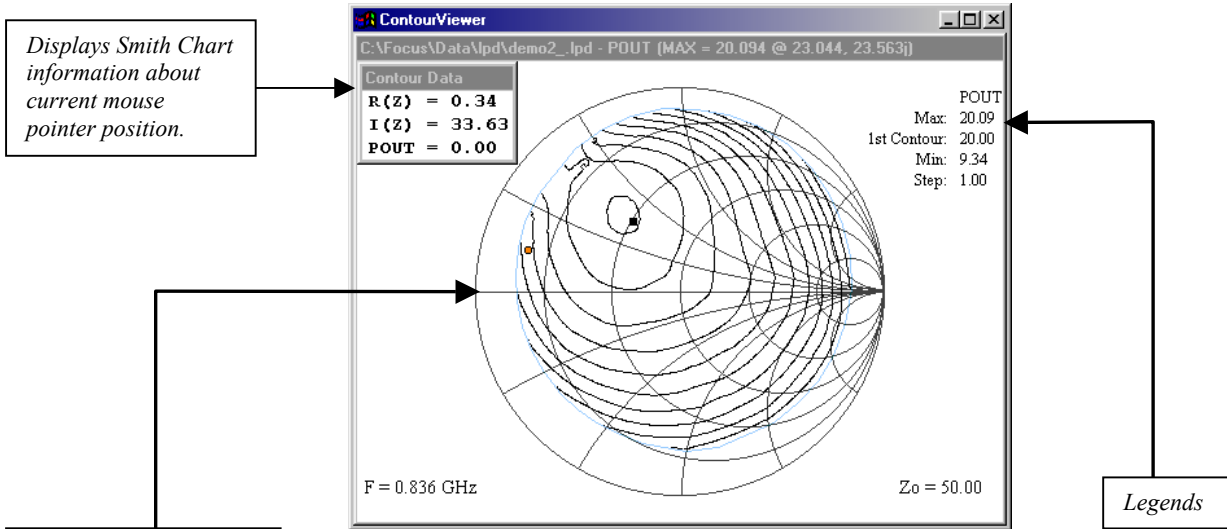
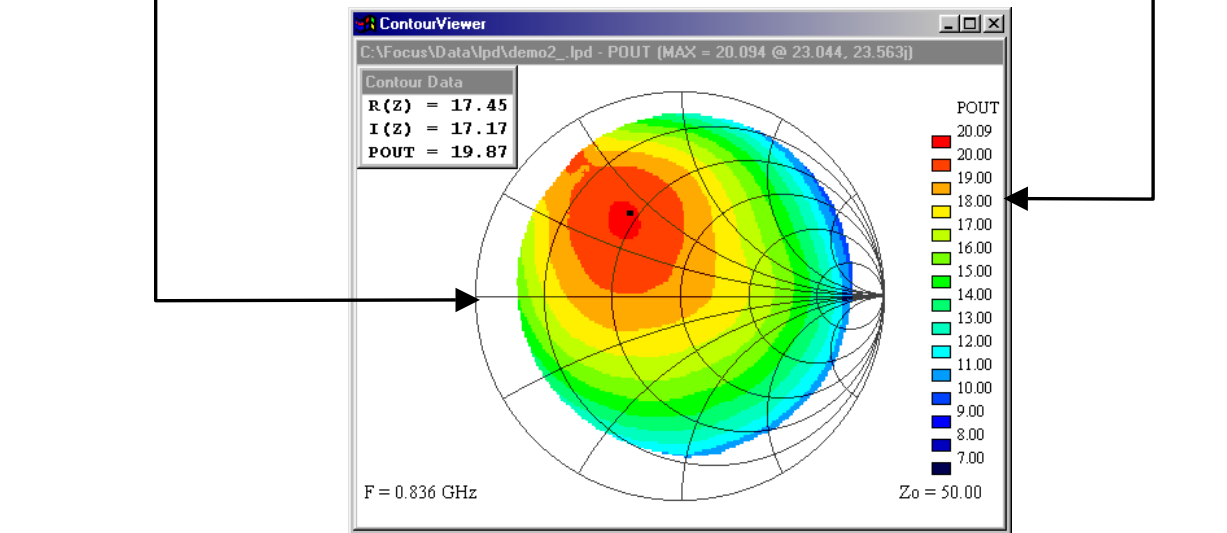

Figure 7: Contour Plot
Figure 8: Colour Plot
- Open Load Pull Data (LPD), Load Pull Compression (LPC) or Noise Measurement Record files (MRF) for display as (Figure 7 & Figure 8):